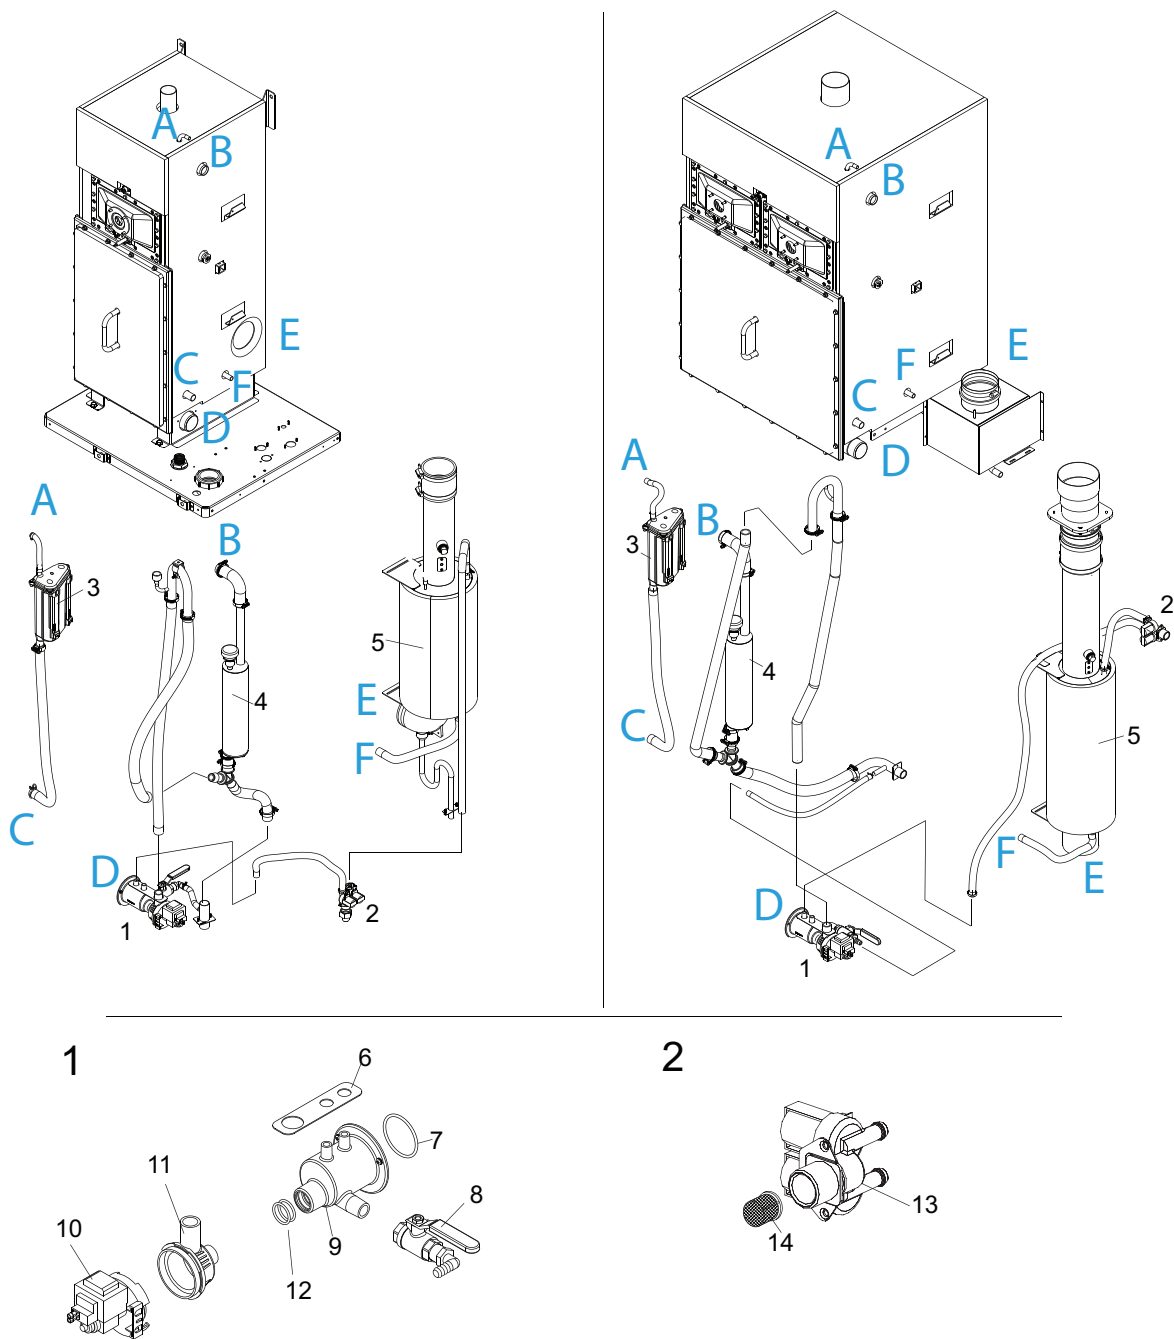

Figure 13: Cleaning Hoses, Dual Fill Valves and Drain Pump (A-G are connection points to humidifier)
5. Reconnect the water hoses. You may also refer to Figure 13.
6. Reassemble the float chamber, ensuring the orientation of the floats have been maintained. Reinstall it to the bracket on the humidifier and reconnect hoses. Refer to Figure 13.
Clean the fill and drain hoses, the dual fill valves, and the drain pump as follows. Refer to Figure 13.